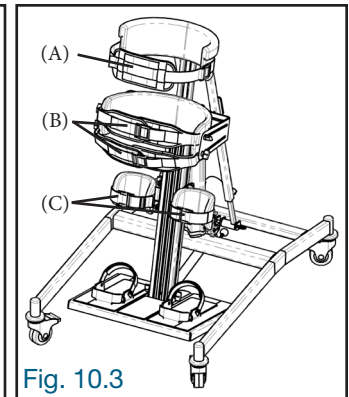

Fig. 10.3
10.3 To securely maintain the user inside, adjust and buckle the straps in the following order (Fig. 10.3):